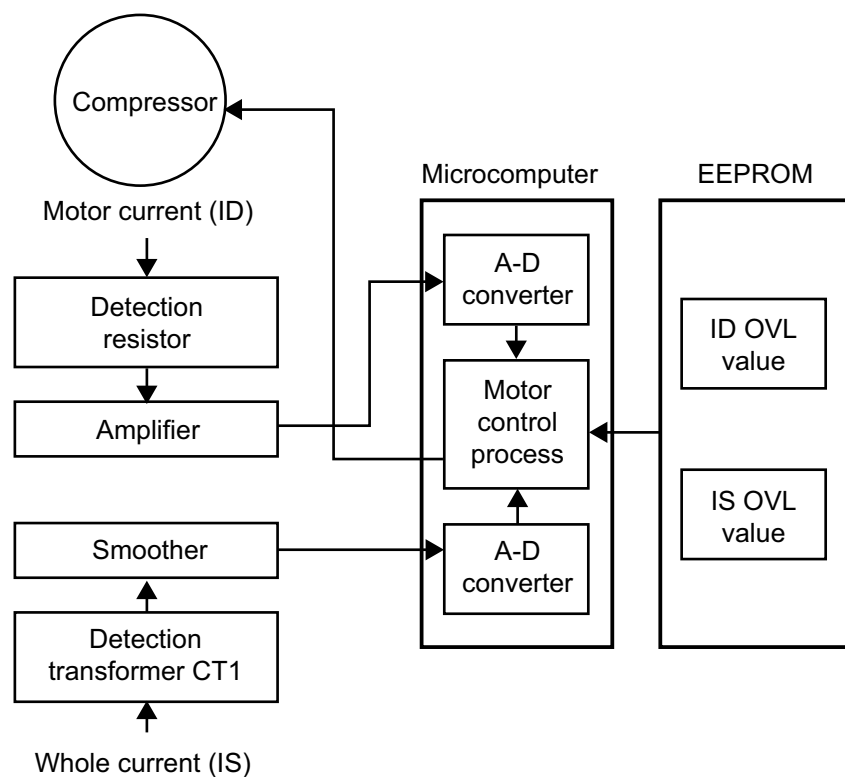
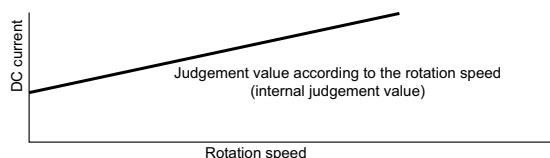

Fig. 6-1 Overload Control System
Fig. 6-4
Fig.6-1 shows the overload control system configuration and Fig. 6-4 is a characteristic diagram on overload judgement values. There are two types of control which has named IS OVL and ID OVL.
La Fig.6-1 représente la configuration du système de contrôle de surcharge et la Fig. 6-4 est un diagramme caractéristique des valeurs de jugement de surcharge. Il existe deux types de contrôle : IS OVL et ID OVL.
Fig. 6-4 shows the rotation speed control. When the voltage at pin ⑥ of the microcomputer exceeds the set value, the microcomputer decreases the rotation speed of the compressor and reduces the load.